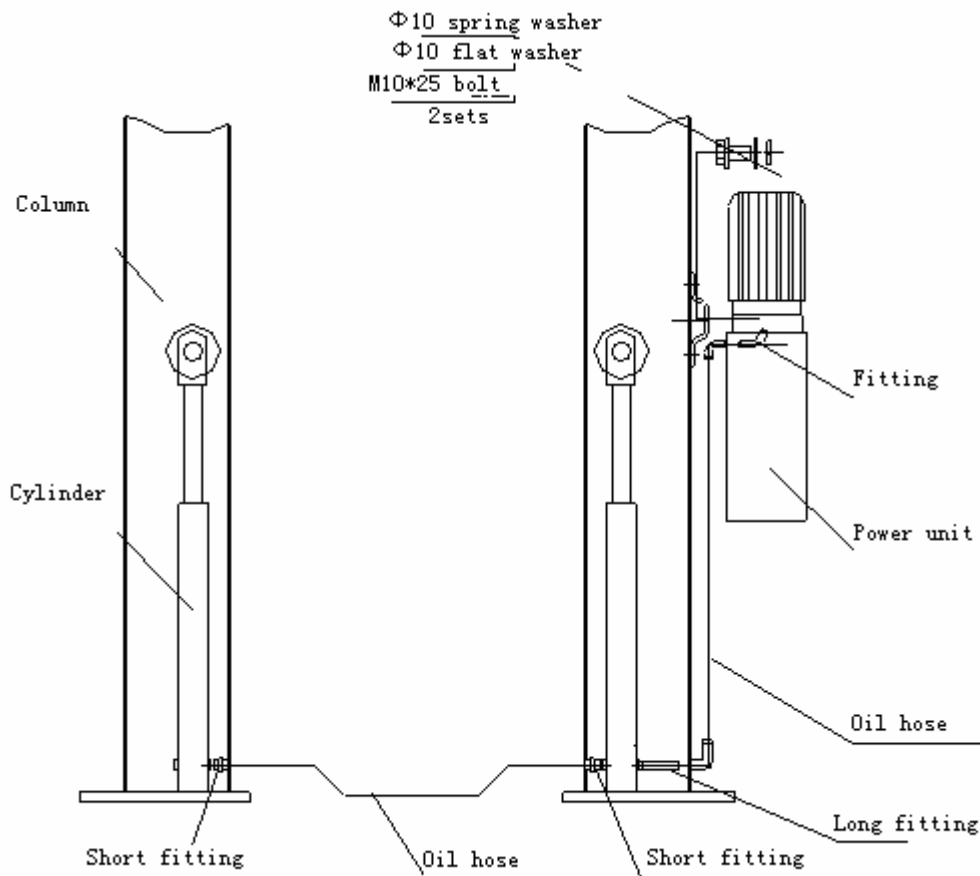
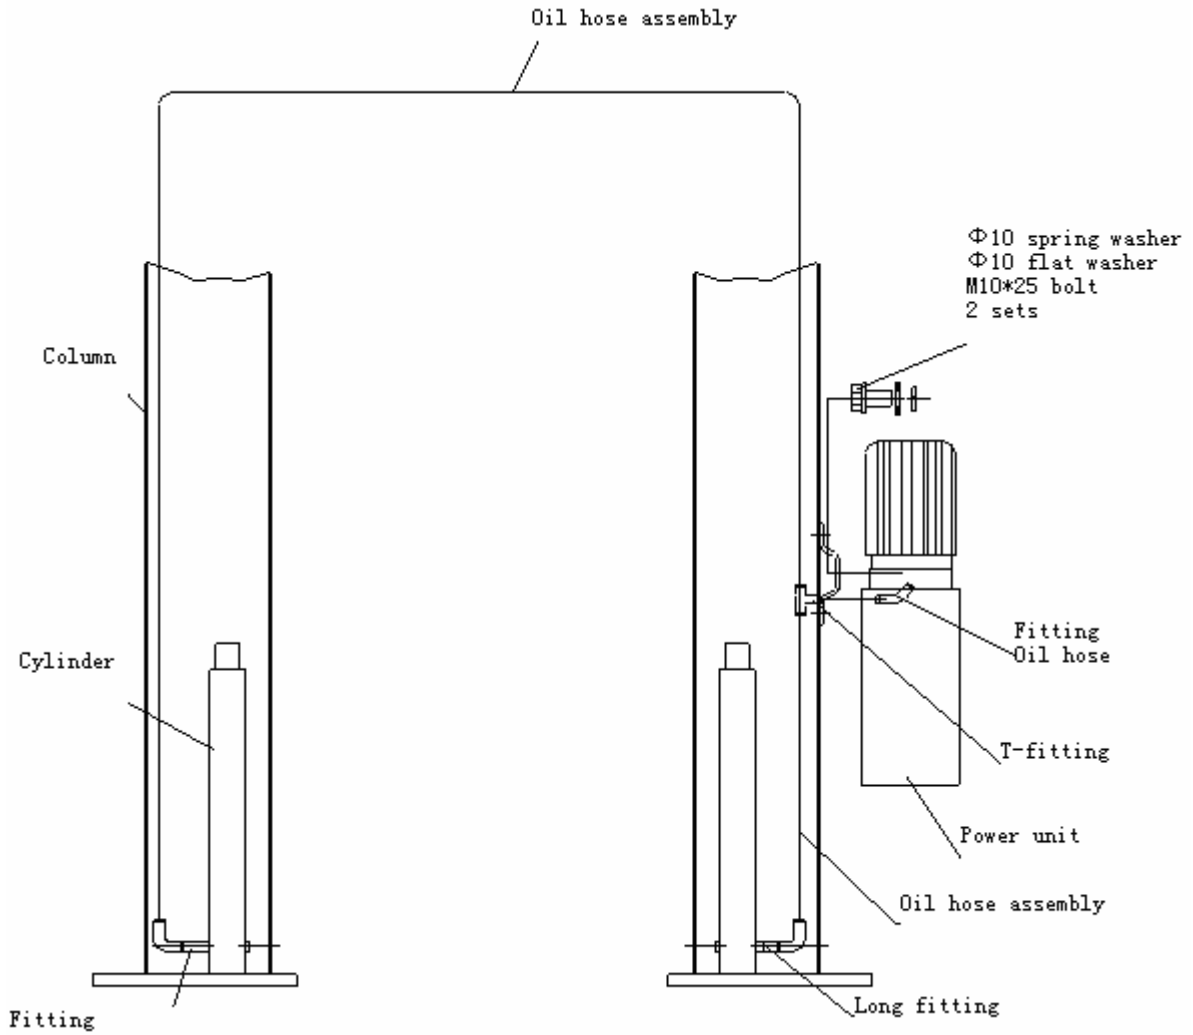

Fig 10a
Fig.10b
(E)、TLT240SBA models, install the hydraulic line as shown in Fig. 10a, for TLT240SCA、TLT235SCA (U) models, , install the hydraulic line as shown in Fig. 10b and tighten all the fittings to prevent oil leakage.
- Use two M10 Bolt s and washers to fix the power unit as shown in Fig. 10a, for TLT235SBA、TLT235SBA